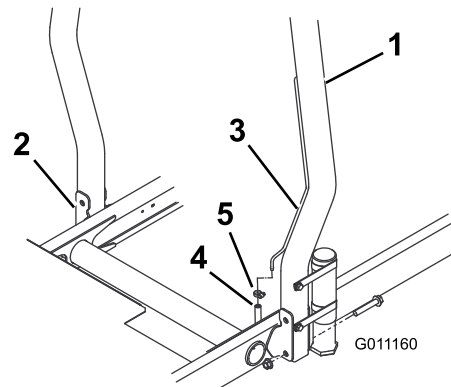

Figure 6
1. Lower the roll bar onto the traction unit mounting brackets, aligning the mounting holes. Ensure that the vent tube on the roll bar is on the left side of the machine (Figure 6).
2. Secure each side of the roll bar to the mounting brackets with 2 flange head bolts and 2 locknuts (Figure 6). Torque the fasteners to 81 N·m (60 ft-lb).